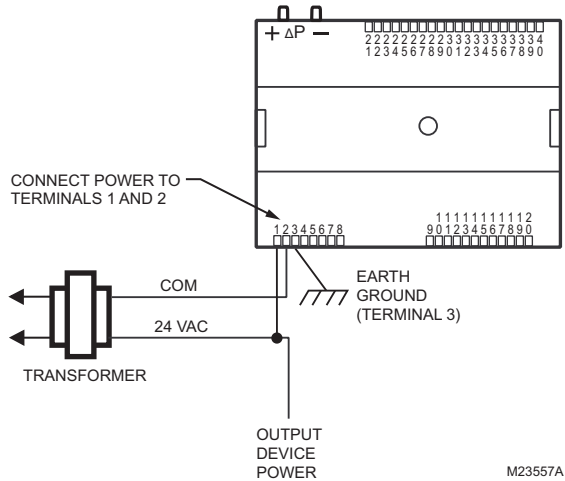
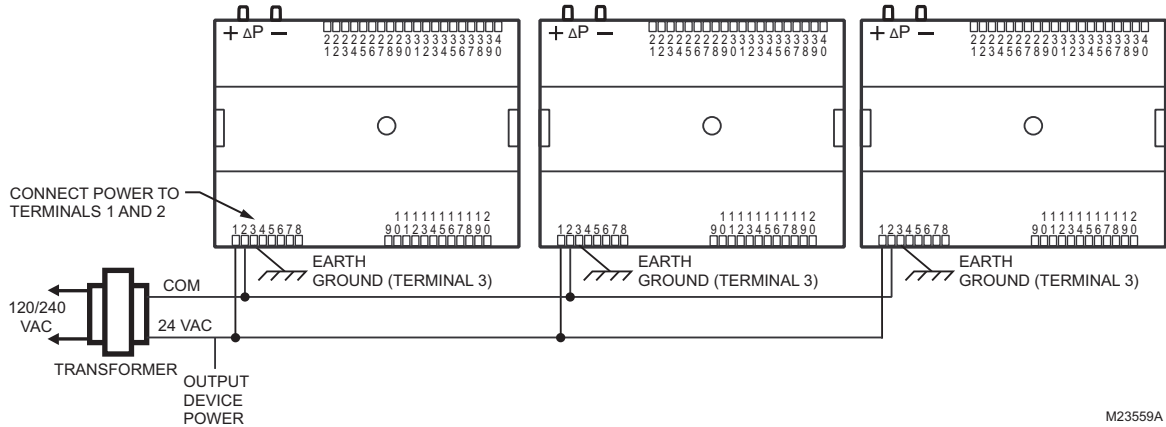

Fig. 10. Power wiring details for one controller per transformer.
Fig. 12. Power wiring details for two or more controllers per transformer.
- For multiple controllers operating from a single transformer, the same side of the transformer secondary must be connected to the same power input terminal in each controller. Controller configurations will not necessarily be limited to three devices, but the total power draw, including accessories, cannot exceed 100 VA when powered by the same transformer (U.S. only). For power and wiring recommendations, see “Wiring” on page 5 The earth ground terminal (terminal 3) must be connected to a verified earth ground for each controller in the group (see Fig. 12 on page 7).
- Do not connect the universal input COM terminals, analog output COM terminals or the digital input/output COM terminals to earth ground. Refer to Fig. 10–Fig. 12 for wiring examples.
Fig. 10 depicts a single controller using one transformer.
More than one controller can be powered by a single transformer. Fig. 12 shows power wiring details for multiple controllers.